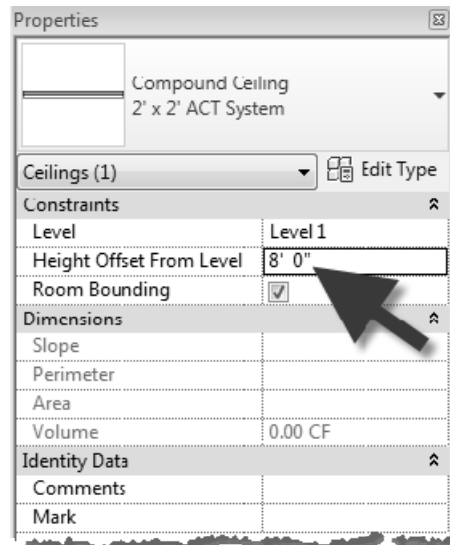

FIGURE 7-4.4 Ceiling: Properties
6. Set the *Height Offset From Level* setting to **8'-0"** (Figure 7-4.4).